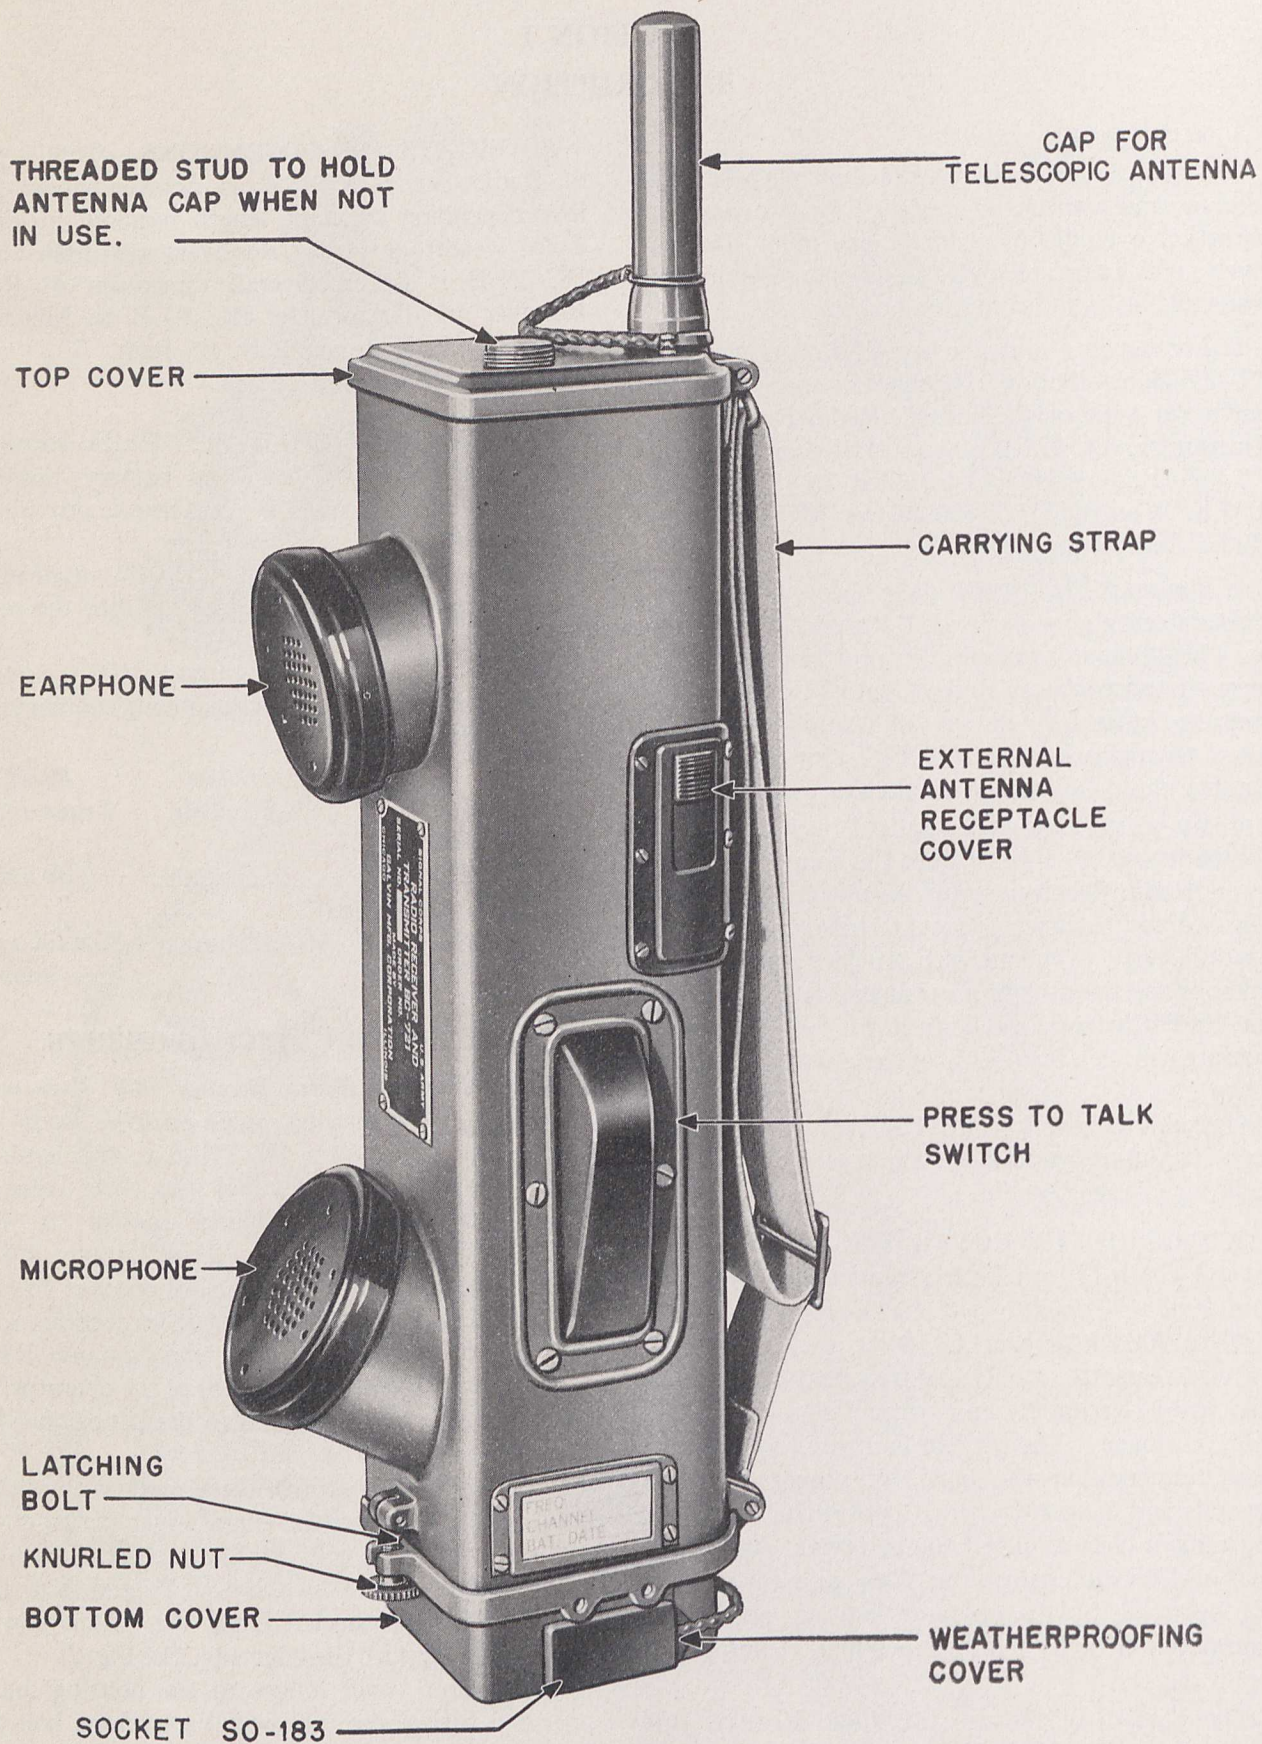
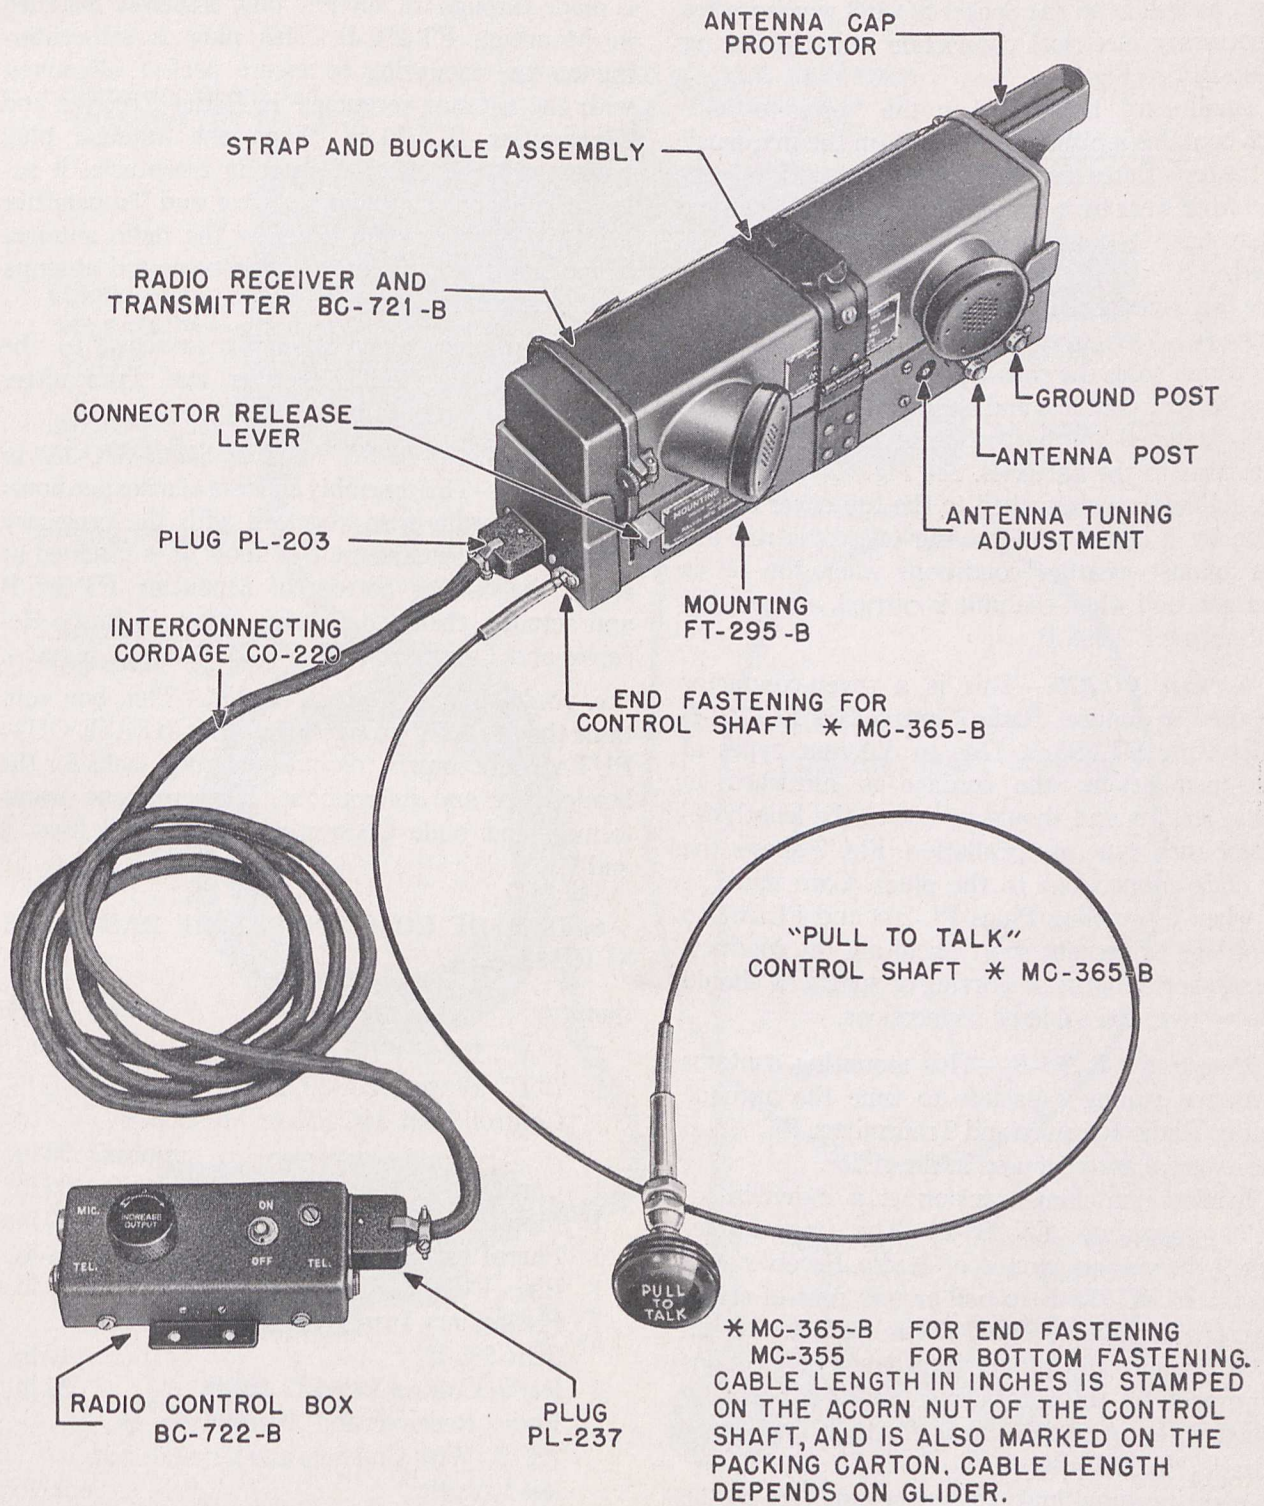

FIG. 2. RADIO RECEIVER AND TRANSMITTER BC-721-B
FIG. 3. RADIO SET SCR-585-B, USING END-FASTENING CONTROL SHAFT MC-365-B
d. By unbuckling the strap and buckle assembly, shown in Fig. 3, and pushing the connector release lever, Radio Receiver and Transmitter BC-721-B is released and becomes a "press-to-talk" self-contained portable radio telephone with attached earphone and microphone resembling an ordinary hand telephone set. Radio Receiver and Transmitter BC-721-B when operated in this manner is automatically turned on when the self-contained telescopic antenna is fully extended. No volume control is used with the radio receiver and transmitter when it is used as a portable radio telephone. See Fig. 2.
A "press-to-talk" switch is mounted on the side of the case, and operates the change-over switch on the radio chassis which converts the set from a receiver to a transmitter. This switch is so located that when the set is held in the left hand, the switch may be operated easily with the fingertips. See Fig. 2.
d. "PULL-TO-TALK" Control Shafts MC-355 or MC-365-B.—This assembly consists of a flexible housing and Bowdin wire, together with the necessary mounting fittings and control knob. It is fastened at either the end or bottom of Mounting FT-295-B and actuates the Send-Receive switch in Radio Receiver and Transmitter BC-721-B. See Figs. 3 and 4.
c. Mounting FT-295-B is shipped from the factory with the female connector mounted either in the end or bottom of the mounting, as ordered. See Fig. 3 and 4. When this connector is fastened in the bottom of the mounting, the opening provided for end fastening is covered with a plate held in place by two screws. To change to end mounting, remove the plate and the screws holding the connector on the bottom of the base. Move the connector into position on the end of the base, using the two original mounting screws.
a. Slide the external antenna receptacle cover down, exposing the antenna receptacle. See Fig. 2.
b. Be sure that the telescopic antenna is pushed down into position and the antenna cap is in place, as shown in Fig. 2.
c. Remove the waterproof protective cover from the hinged base Socket SO-183. See Fig. 2.
d. Place Radio Receiver and Transmitter BC-721-B on Mounting FT-295-B, as shown in Fig. 3, and fasten the strap and buckle assembly. Care should be used when placing the unit on Mounting FT-295-B to keep the antenna cap chain clear of the antenna cap protector casting. This may be done by keeping the chain on the carrying strap side of the antenna guard.
e. Connect the glider antenna to the antenna binding post marked "A" on Mounting FT-295-B. See Fig. 3.
Control Shaft MC-365-B is for end fastening to Mounting FT-295-B. Control Shaft MC-355 is for bottom fastening to Mounting FT-295-B. See Figs. 3 and 4.
Close the opening to the external-antenna receptacle by sliding the waterproof cover up over the opening, Fig. 2, and put the weatherproof socket cover, which is held to the hinged bottom cover by a chain, in position over the socket. The weatherproof cover must be pressed on very tightly taking care that it seats uniformly around the edges.